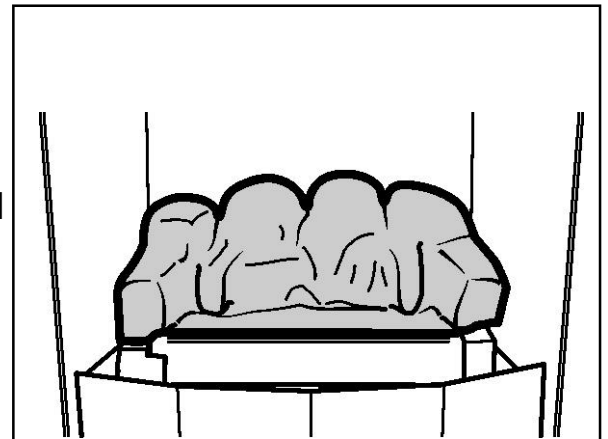

Figure 1. Rear base pebble position
1. Place the rear base pebble in the firebox. It should rest on the ledges at the rear sides of the burner unit (See figure 1). When located, gently move the rear base pebble so that it is as far forward as possible. The amount of movement will be negligible.